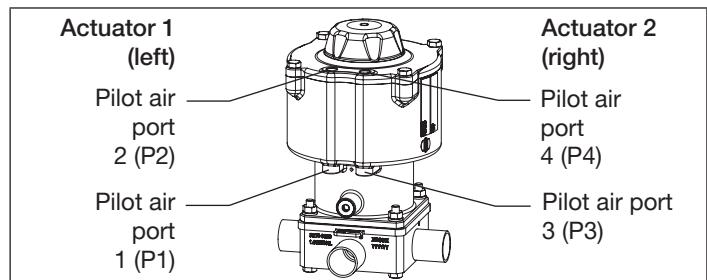

Fig. 25: Pneumatic connection
6) Actuator assignment see "Fig. 25".